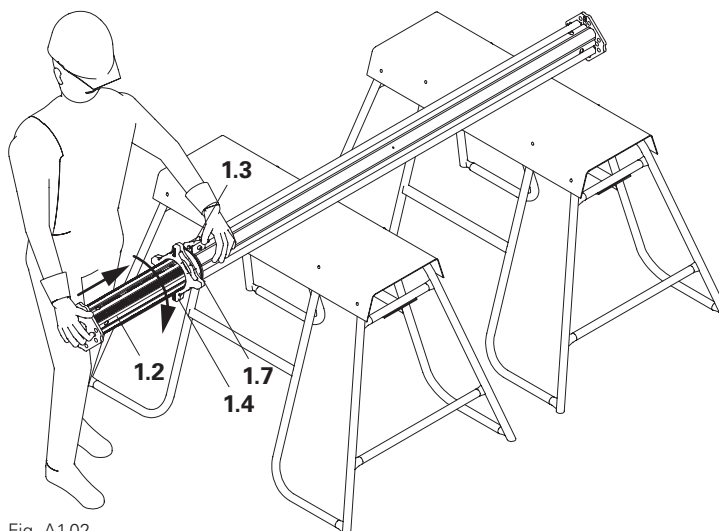

Fig. A1.02
4. Push in the inner tube until the adjusting nut is lying against the rubbing plate (1.7). (Fig. A1.02)